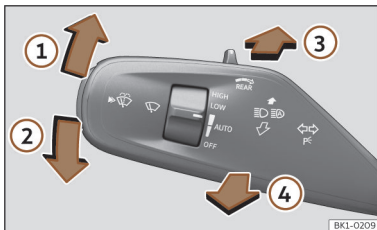

Fig. 94 Turn signal and main beam lever.
- From the neutral position, press the turn signal and main beam headlights lever forwards >>> Fig. 94 .
- **EITHER:** if main beam assist is on, pull the turn signal light and main beam headlights lever back >>> Fig. 94 .